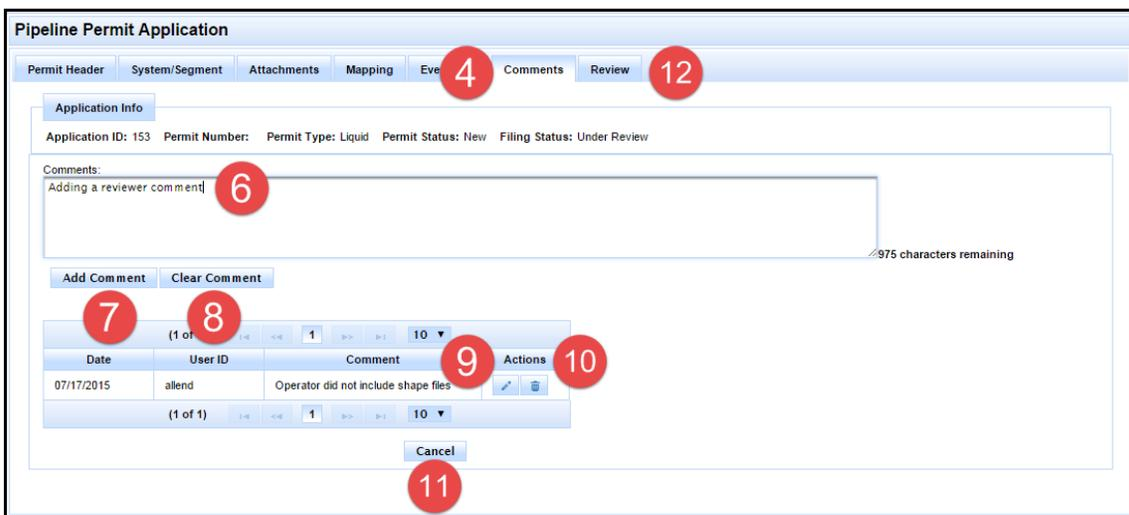

Figure 84: Mapping Reviewer Comments Tab
- Review the information on the Mapping tab. When you are finished, click the Comments tab. An example Comments tab is shown in Figure 84.